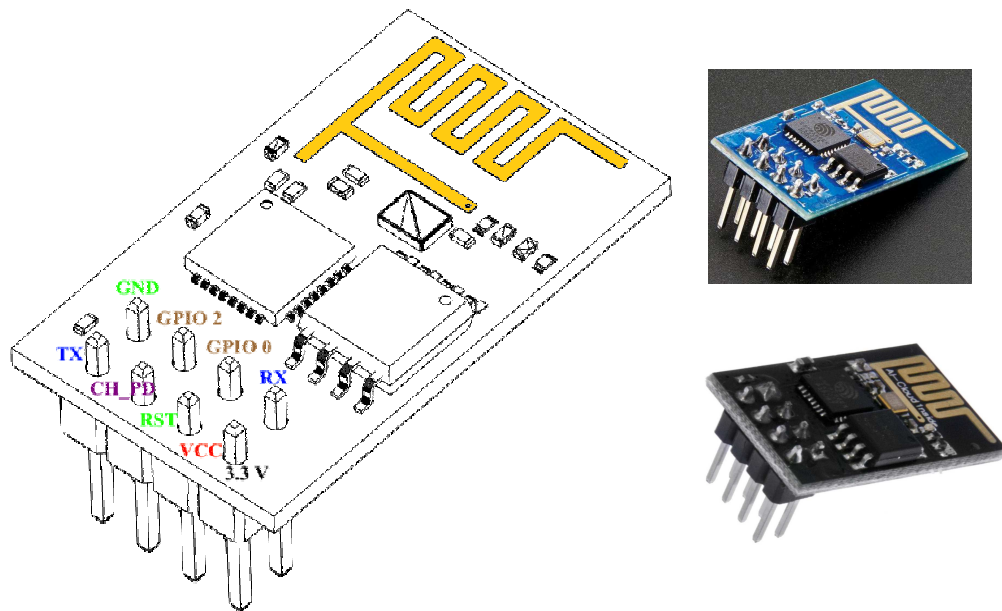
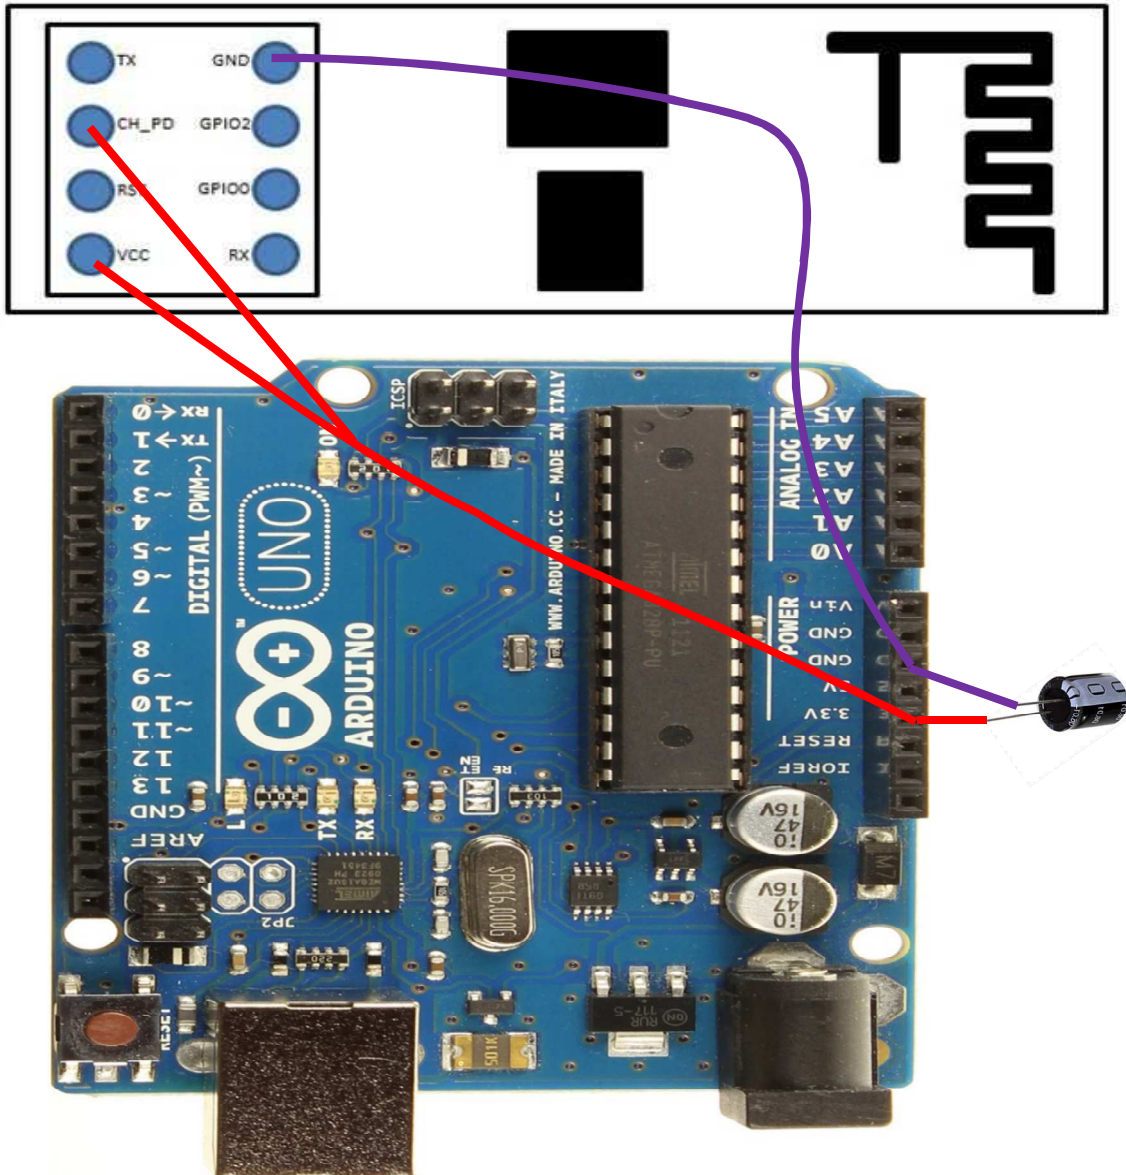
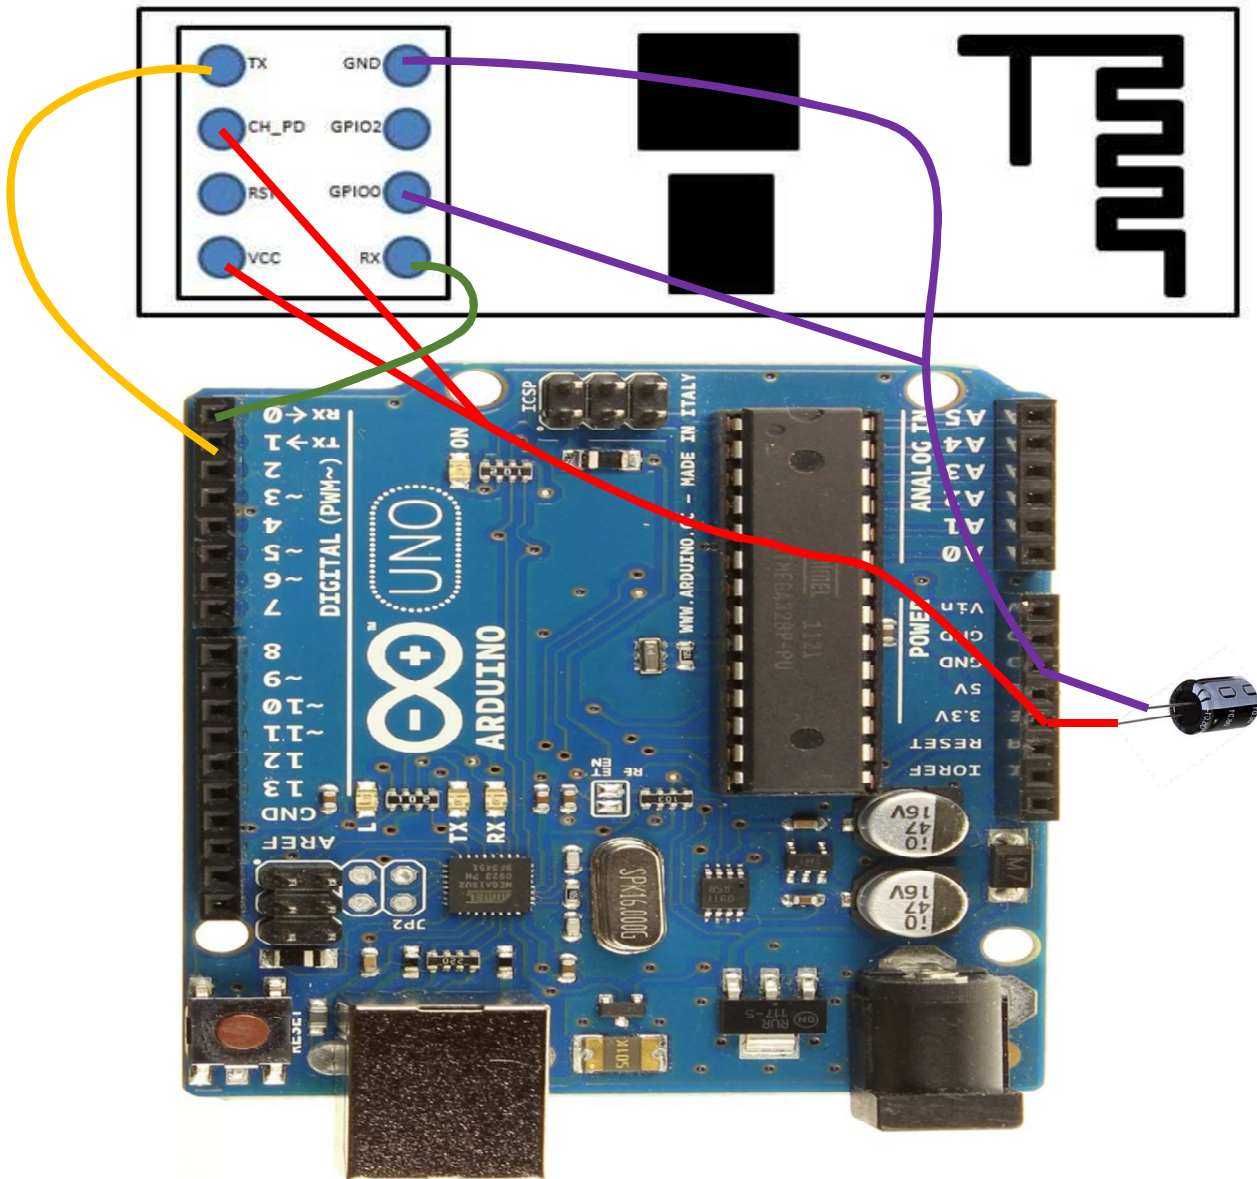
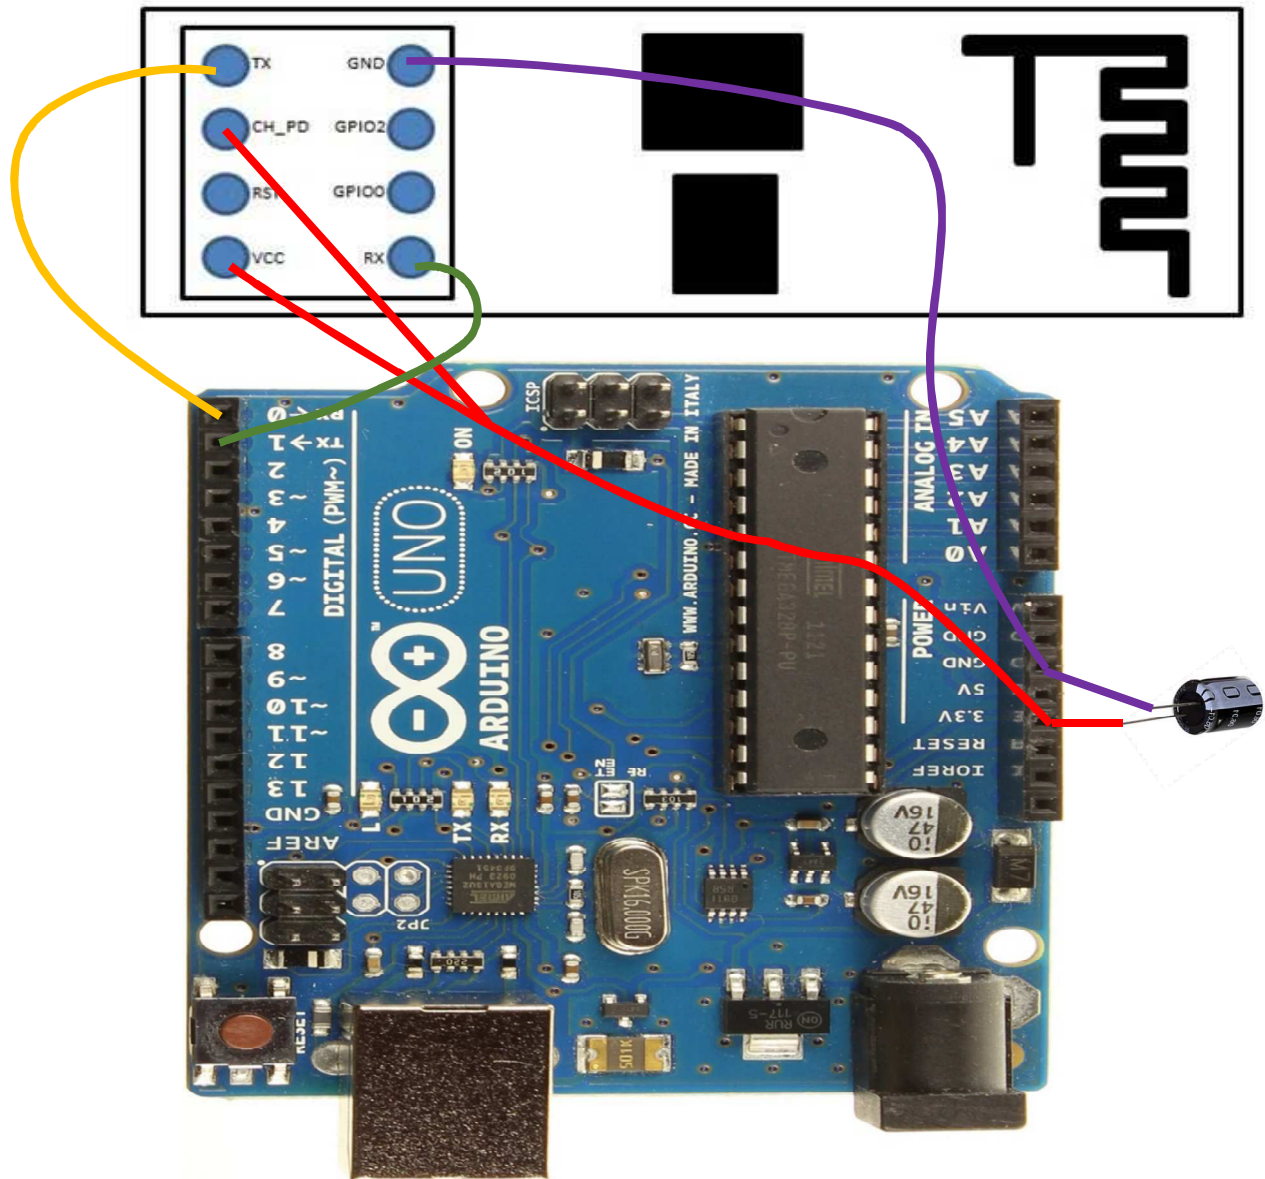

Figure 1: ESP8266-01 Pinout and Commonly Available Modules.
Figure 2: ESP8266-01 Power from Arduino Board.
Figure 3: ESP8266-01 Connections for *Flashing*.
Figure 7: ESP8266-01 Connections for “Standard” (Flash Mode) Operation.
Fig. 1 shows the ESP8266-01 breakout model, which basically has the “minimal” pinout required for operation as well as the printed/PCB antenna. In this report, the pinout is basically used for:
Fig. 1 also shows two of the most common modules available for purchase since several years.
There are lots of suggestions, warnings, and specification sources so in this report the documented power connection is the one used for years without any major incident due to the power consumption. Fig. 2 schematically shows the pins used for the ESP8266-01 power supply using an Arduino UNO board, which
Warning/Disclaimer: Use the power supply shown in Fig. 1 under your own risk, and take into account that this scheme has worked for several years in very simple development environments and very simple application prototypes. It has not been used in production environments of any application. A capacitor as the one shown in Fig. 2 is repeatedly suggested in many sites due to several ESP8266 power consumption spikes as well as the rather limited 3.3v power source provided by the Arduino boards. The capacitor nominal capacitance specification (e.g. either 1 μ F or 10 μ F) depends on the (mostly Internet, non-official) source, though. The work documented in this technical report has been made with 1 μ F and 10 μ F nominal capacitance capacitors. There are several suggestions of using a power source independent of Arduino boards, too. The power source in Fig. 1, however,
Fig. 3 shows the physical connections used for programming (*flashing*) the ESP8266-01 with an Arduino UNO board. Take into account that the power supply connection is the one shown in Fig. 2 above, and there are a few more physical connections, basically for:
Once the Arduino board is configured so that it does not access the serial pins, turn off the Arduino board and connect the pins as shown in Fig. 3 above before turning on the Arduino once again. The sketch in Fig. 5 will be used as a simple example to run in the ESP8266-01.
- 3) Connect the ESP8266-01 to the Arduino board as shown in Fig. 3 above, and connect the Arduino board power supply
Fig. 7 shows the connections of the ESP8266-01 in order to be used as an Arduino board wi-fi network. Take into account that the power supply connection is the one shown in Fig. 2 above, and
The sketch in Fig. 5 uploaded to the ESP8266-01 module does not use/need the serial connection for Arduino board (inter)operation, though. Clearly, that sketch is not very useful and does not provide a wi-fi facility to a low cost Arduino board. In cases the Arduino board needs to send and/or receive some data via Wi-Fi it will need the serial communication with the ESP8266-01 module via Rx-Tx pins connected as shown in Fig. 7.
- 2) Connect the ESP8266-01 module as shown in Fig. 7 above.